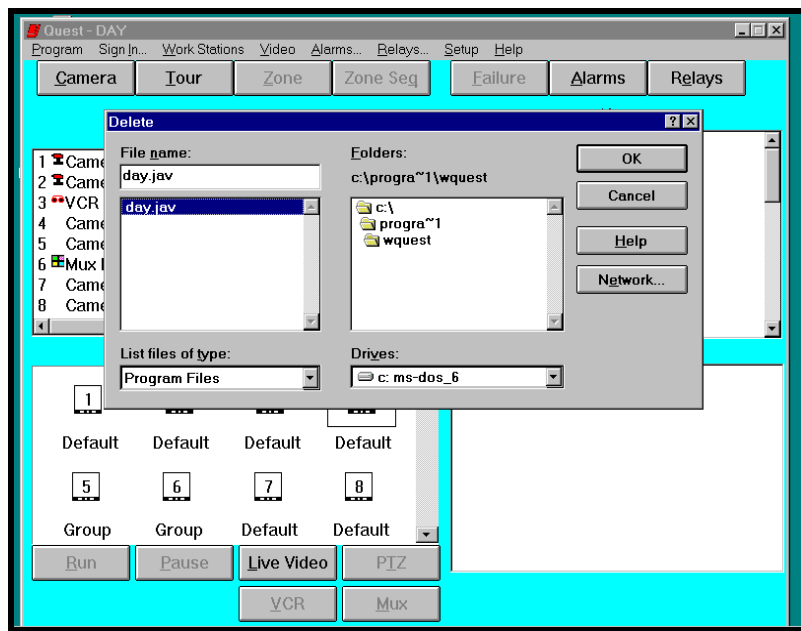

Figure 3-38. Delete File Dialog Box
5. Click on **Delete** to remove a user program. The Delete dialog box is illustrated in Figure 3-38.